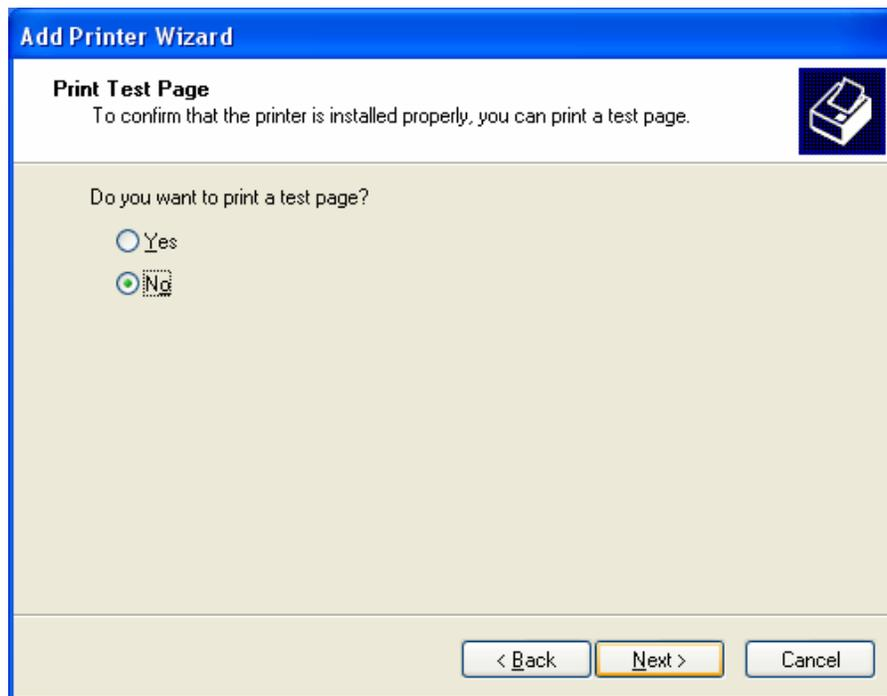

Fig 4-13 Print Driver Installation
STEP 14: Select **NO** when asked to print a test page and click **NEXT STEP** (see fig. 4-13)